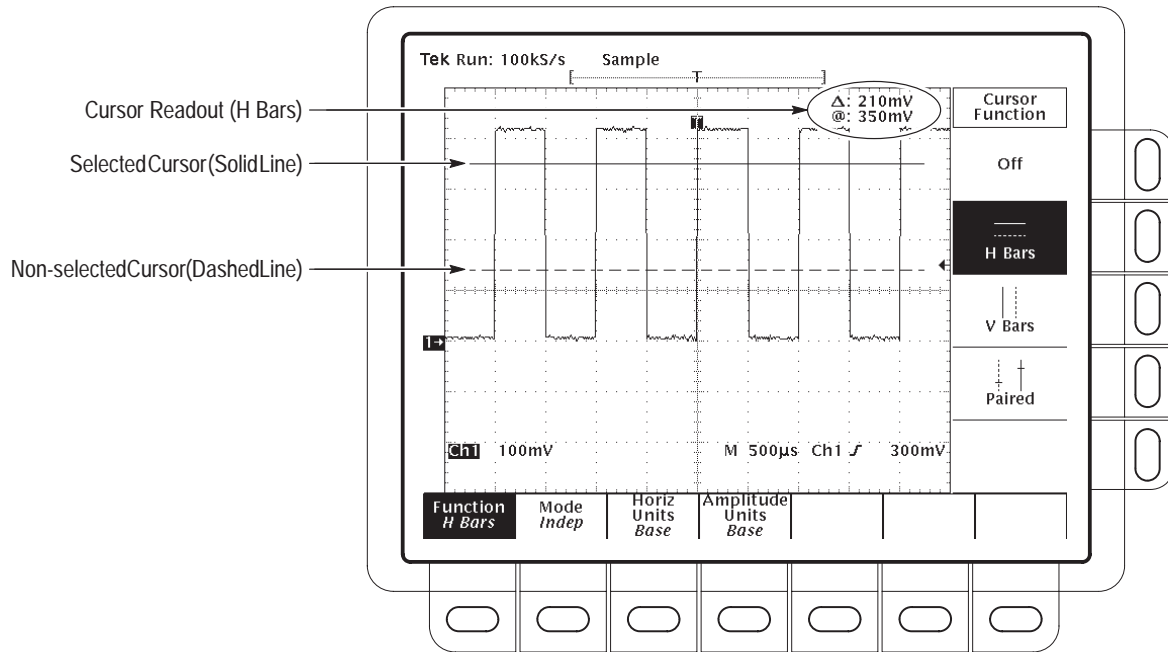

Figure 3-64: H Bars Cursor Menu and Readouts
**H Bars.** The value after  $\Delta$  shows the voltage difference between the cursors. The value after @ shows the voltage of the selected cursor relative to ground (see Figure 3-64). With video triggers, you can display the voltage in IRE units.
1. To display the cursor menu, press **CURSOR** (see Figure 3-64).